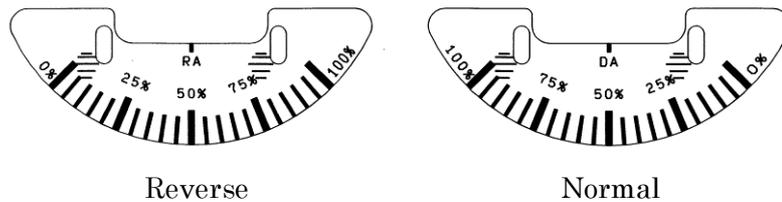

Fig.21 Scale plate
- ( 1 ) Perform adjustment of zero span in positioner before installing the positioner to either face of DA or RA with consideration of operating direction. (Refer to Fig. 21.)